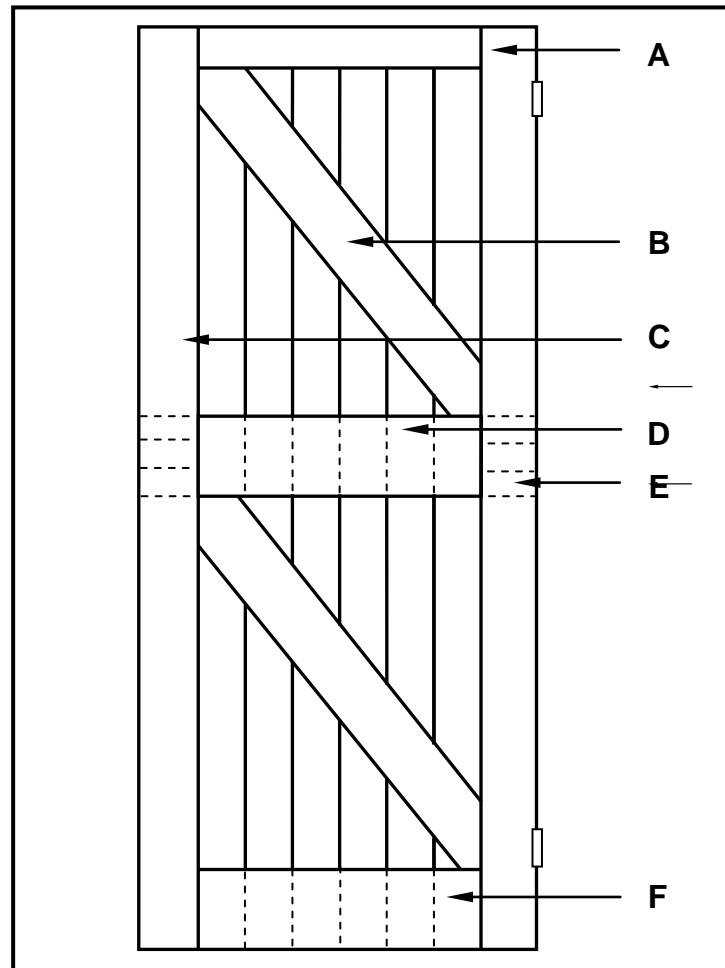

FIGURE 6.4
- 6.4 FIGURE 6.4 below shows the inside elevation of a framed ledged and braced batten door with hinges. Study the drawing and answer the questions that follow.